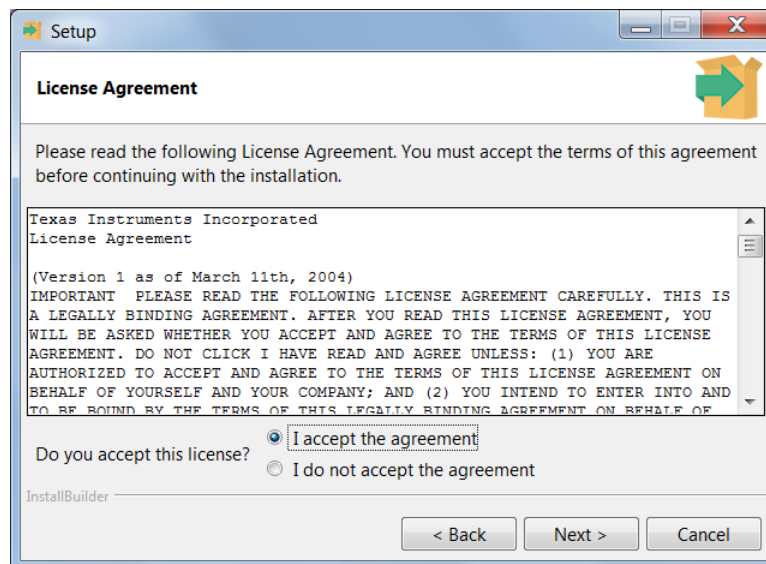

Figure 6. XDS110 Driver License Agreement
2. Read and accept the license agreement, and click the Next button (see Figure 6).